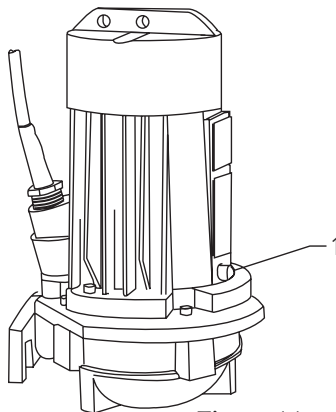

Figure 11
Put the pump in a horizontal position so that the 2 hexagonal socket screws are on top and one at the bottom (see Figure 11). Unscrew the level plug (1) and the vent plug (2).